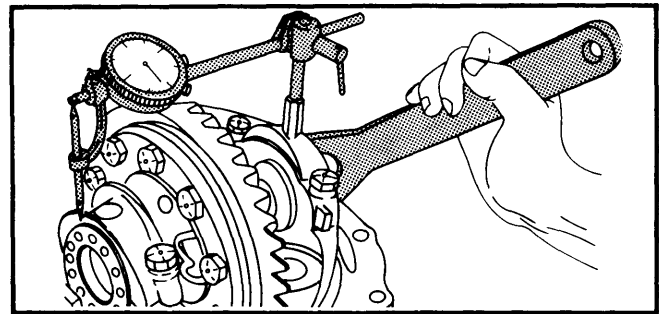

Fig. 3 Using Dial Indicator to Adjust Side Bearing Preload
6) Install a dial indicator as shown in illustration. See Fig. 3. Tighten right adjuster nut until side bearing preload (case spread) is to specifications.